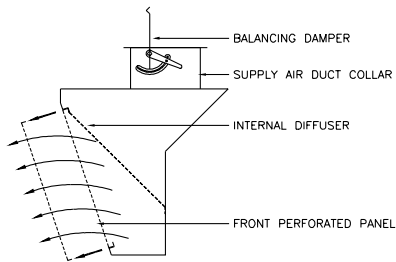

fig. 26
2. E-Z Breeze [Refer to fig. 26]